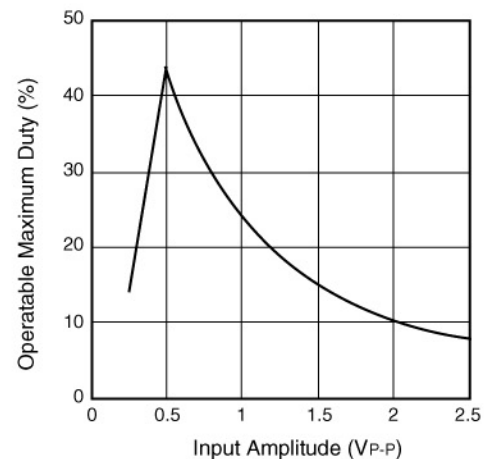
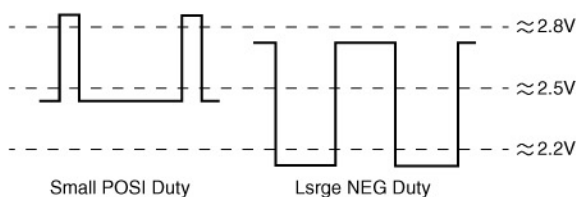

Fig. 3
Fig. 2
If the duty ratio at pin ⑥ is small as shown in Figure 2, the optimum value is approx. 0.3 V_{P-P}. If the duty ratio is large, the optimum value is approx. 0.6 V_{P-P}. Figure 3 shows the allowable input amplitude and the reference value of duty test.